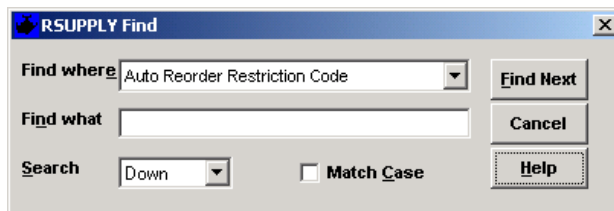

Figure 4.19
- 4.5.2 To search for a specific code on a **Validation Table**, select a Validation Table from the **Select Table** list, and click the  (**Find**) button (Figure 4.19). Enter the **Find** criteria. Click **OK** to search the codes on the Validation Table.